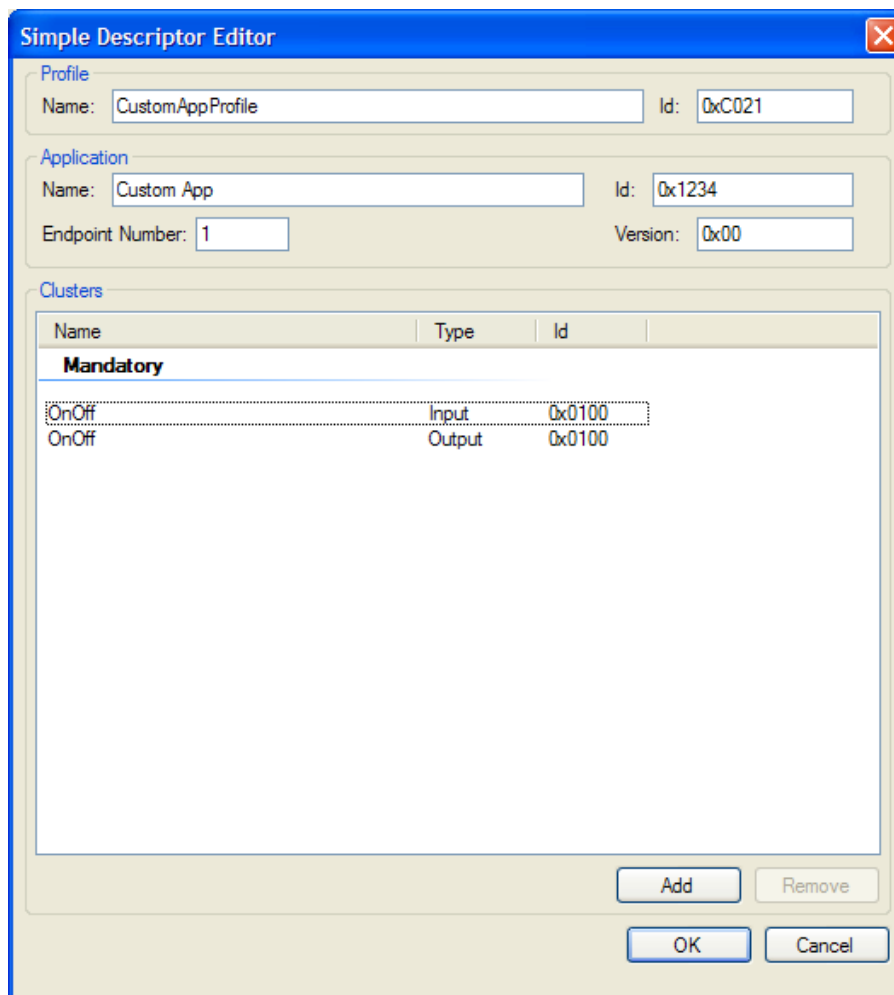

Figure 2-2. Custom Application Simple Descriptor
2. Modify the endpoint and simple descriptor to contain the information depicted in figure 2.2 below (endpoint number 1, profile 0xc021, application id 0x1234, an input and output OnOff cluster 0x0100).
After clicking this button, the Simple Descriptor Editor window appears as shown in Figure 2-2. Modify the endpoint’s simple descriptor to contain the same information as shown in Figure 2-2.